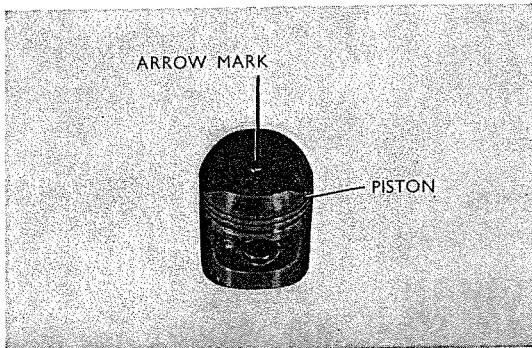

Fig. 3.100 Mark on piston head
1. At installation, the arrow mark at the piston head should be faced in the forward direction. (Refer to Fig. 3.100)